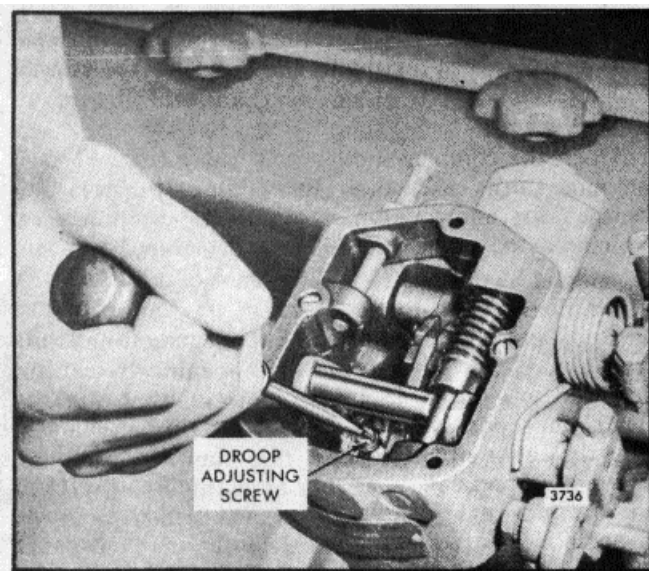

Fig. 8. - Adjusting Speed Droop
4. Loosen the droop adjusting screw. Move the droop bracket so that the screw is midway between the ends of the slot in the bracket. Tighten the screw (Fig. 8).